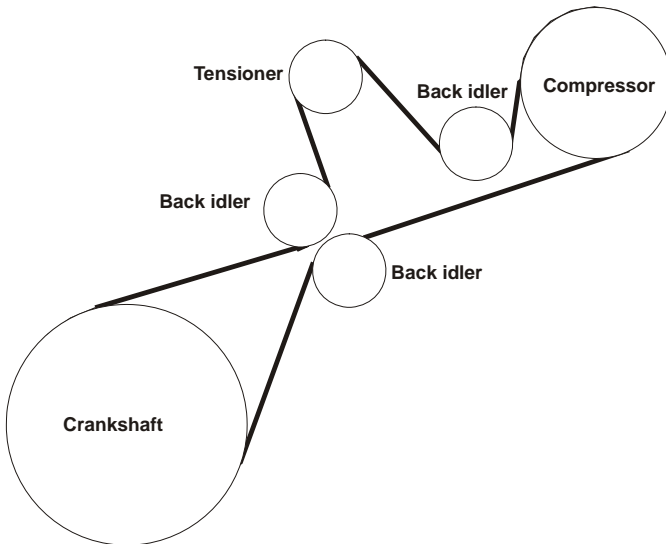

Figure 2.3
- Install the VR drive belt (Figure 2.3). Make sure that it is aligned correctly and clears all components, including the cam position sensor wire harness.